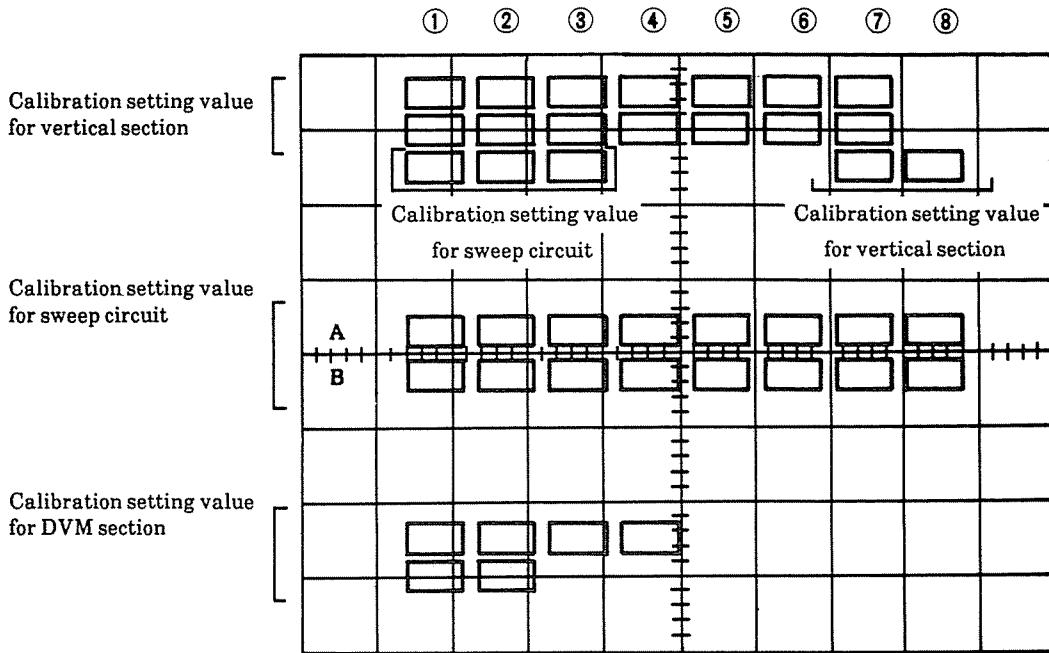

Fig. 4-5
- (2) Press the "INTEN" knob and momentarily release it, then press the "OUT" (SCAL) knob while the CRT screen is in the BEAM FIND status.
- (3) The HEX display (calibration setting value) will appear on the CRT screen.
- (4) Confirm that neither "FFF" nor "000" appears in the HEX display on the CRT screen. If it does, perform self calibration once again by way of precaution, and perform steps (1) to (5) once again. If "FFF" or "000" still appears in the HEX display, refer to Fig. 4-5 and Table 4-7 (table of calibration setting values), and find out at what stage of the calibration procedure the calibration defect occurred. Next, search for the function concerned and carry out repair.